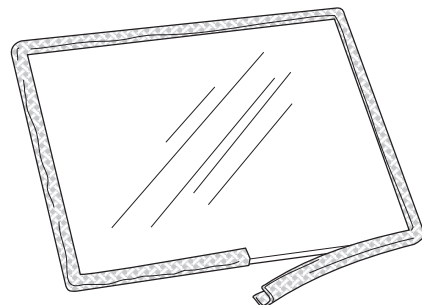

Figure 32. Wrap the gasket around the glass panel.
4. Remove the old gasket material. See fig. 32.